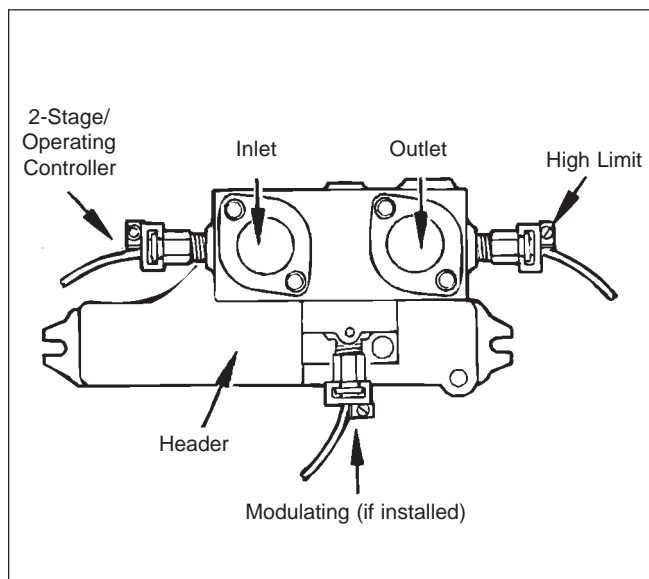

Figure 16. Sensory bulb locations.
12. A temperature control sensing bulb is located in the front of the header on the inlet side and a manual reset hi-limit sensing bulb is located on the back side of the header on the outlet side (see Figure 16). Remove these sensing bulbs from the header. The following steps for removal apply to all sensing bulbs: